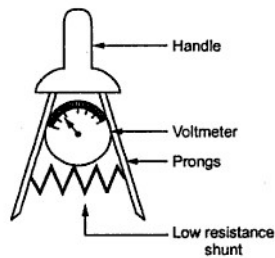

Fig. 1.27 Cell tester
2. **Using cell tester :** Another method of testing the lead acid battery is called **high discharge test** or **short circuit test**. The cell tester is used for this test. It consists of 0 - 3 V voltmeter shunted by a low resistance. The low resistance shunt is connected between two prongs as shown in the Fig. 1.27. The prongs are pressed against the cell terminals. A high discharge current flows through the low resistance and cell voltage is indicated by the voltmeter.